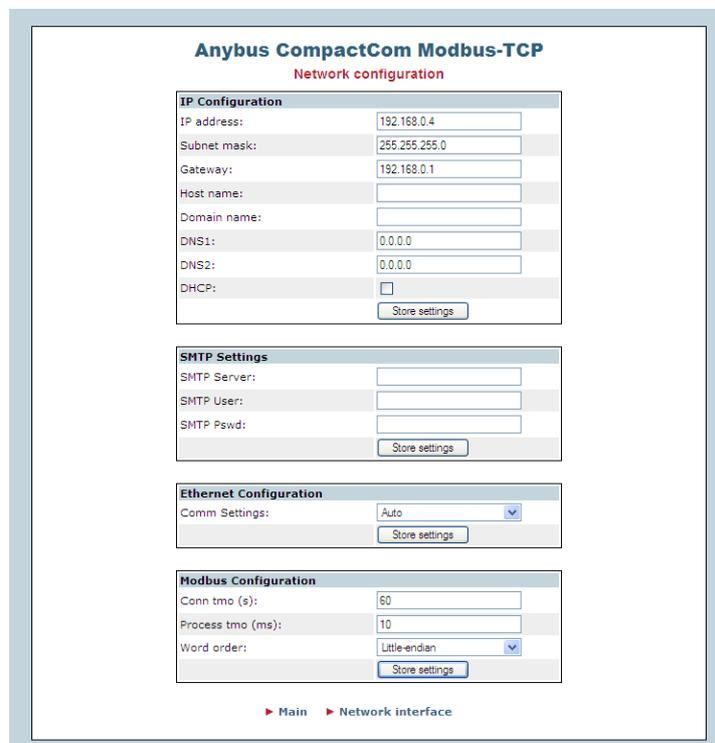

Figure 11: Webpage with configuration of the timeout and order of the bytes
- To configure the timeout of the communication can be use the web browser according to the figure 11 or parameter P0842.